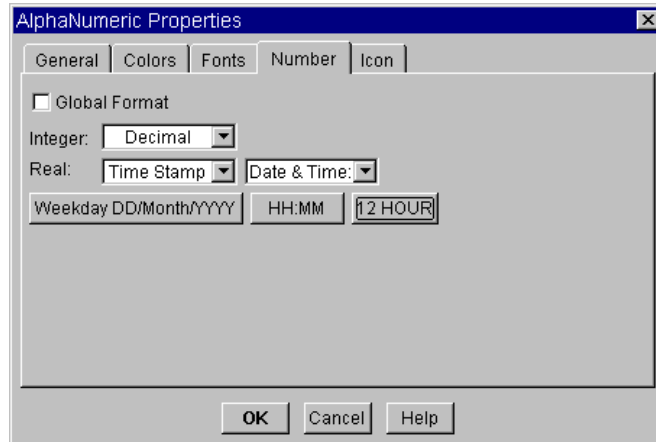

Figure 5-10. The AlphaNumeric Properties Box
- Click `HH:MM:SS` to toggle to `HH:MM`. Click `24 HOUR` to toggle to `12 HOUR`. See Figure 5-10.